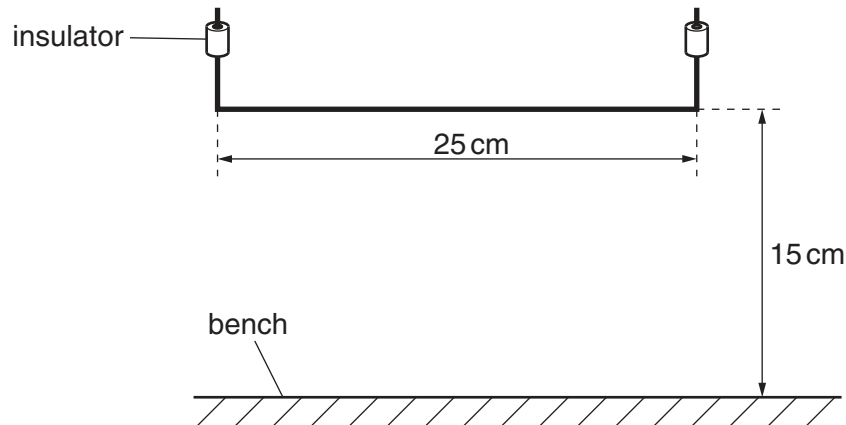

Fig. 2.1
Two insulators e.g. corks or rubber bungs (see Fig. 2.1).
- 1 The copper wire must be bent into the shape shown in Fig. 2.1.